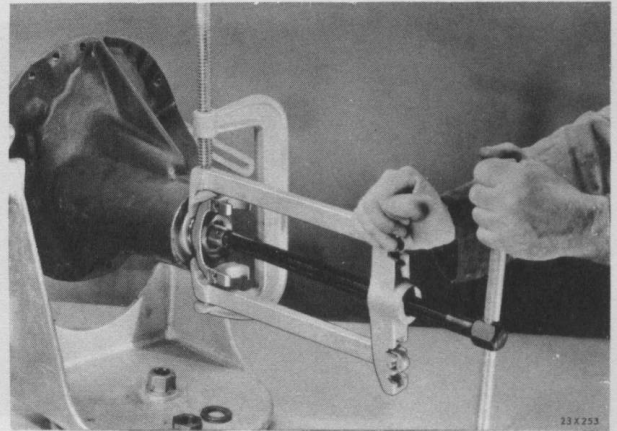

Fig. 29—Removing Drive Pinion Yoke
- (1) Disconnect the rear universal joint.
- (2) Remove the drive pinion yoke nut, washer, and remove yoke (Fig. 29).